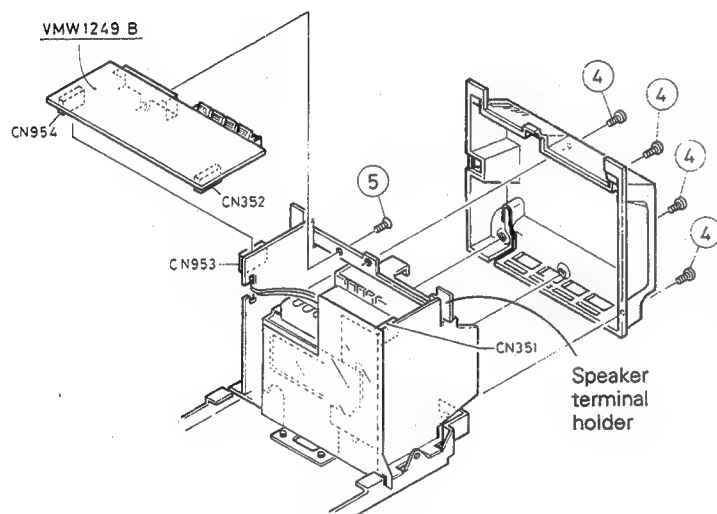
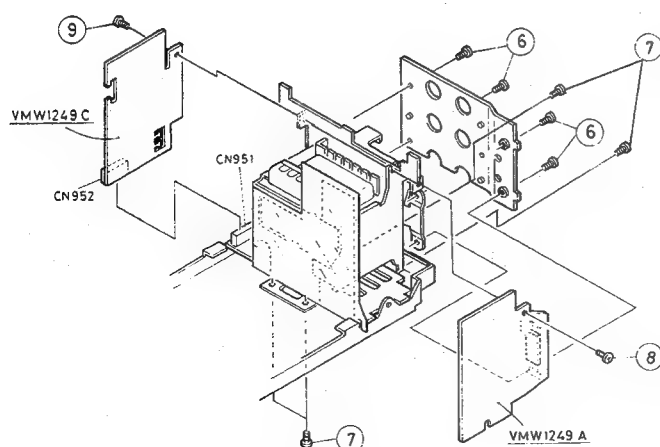

Fig. 7-11
Fig. 7-12
■ Power supply section (Fig. 7-11, Fig. 7-12)
1. Remove four screws (4) retaining the rear panel.
3. Remove a screw (5) retaining the connector of the power board (VMW1249B) from the speaker terminal holder.
5. Remove four screws (6) retaining the radiation (A).
6. Remove four screws (7) retaining the bottom cover and the transformer bracket.
7. Take off the bottom cover first, and remove a screw (8) retaining the power amp board (VMW1249A) to detach it.
8. Remove a screw (9) retaining the power relay board (VMW1249C).